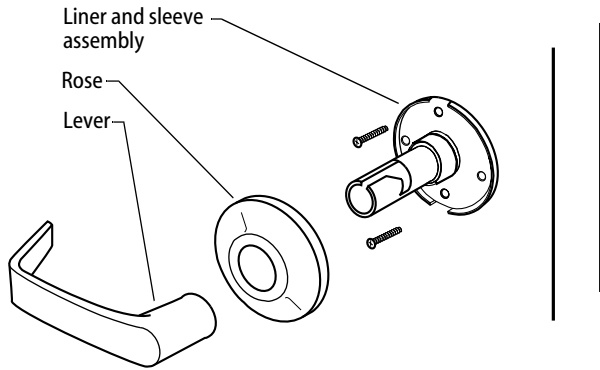

Figure 5 — Installing the 7KC single dummy trim
- 1 Fasten the liner and sleeve assembly onto the door with the screws provided. See Figure 5.